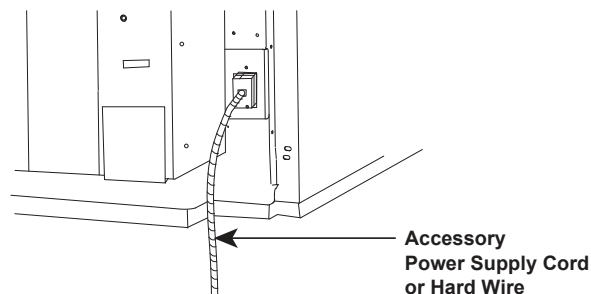

Fig. 14 – Power Connection
3. Connect accessory power supply cord or hard wire connector to unit connector. See Fig. 14.